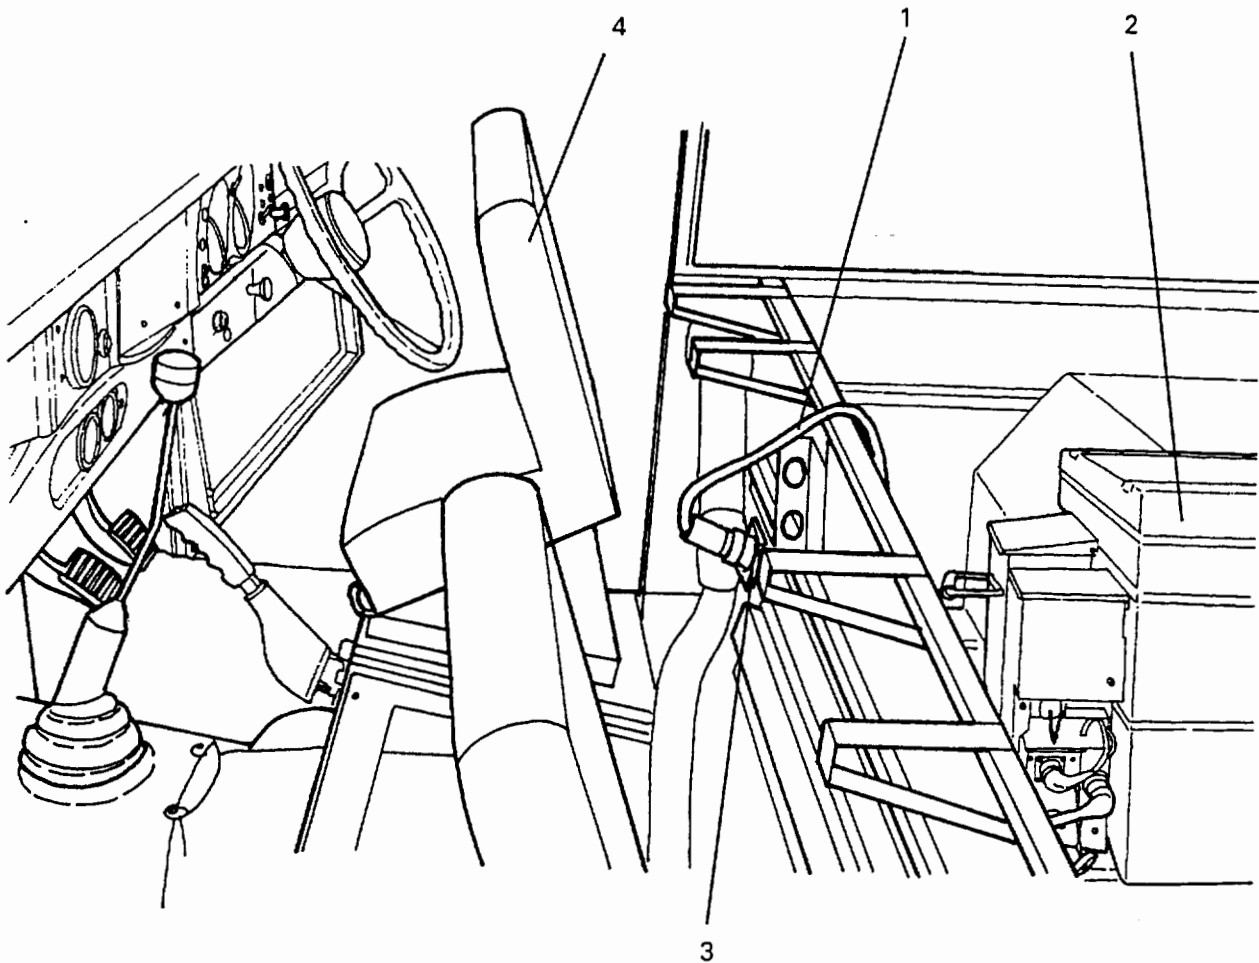

Figure 3-5 — 24 Volt Land Rover Power Cable
308. Connect the extension cable (1) from the blood refrigerator (2) to the power outlet (3) located behind the drivers seat (4) (Fig 3-5).